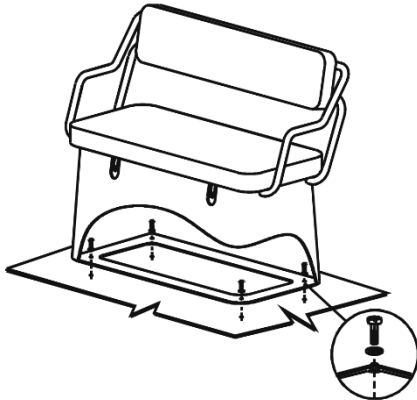

Fig. 8. Installation of container SD-15.
- Fix container to the deck by means of bolts M8*25 and toothed lock washer (see Fig.8).